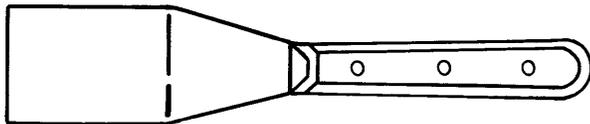

Figure 4-52. Putty Knife
(3) **Putty knife.** A putty knife is used for applying putty compound, sealant and for scraping gasket material. The blade has a wide square point and is available in different lengths and widths. A typical putty knife is shown in figure 4-52.